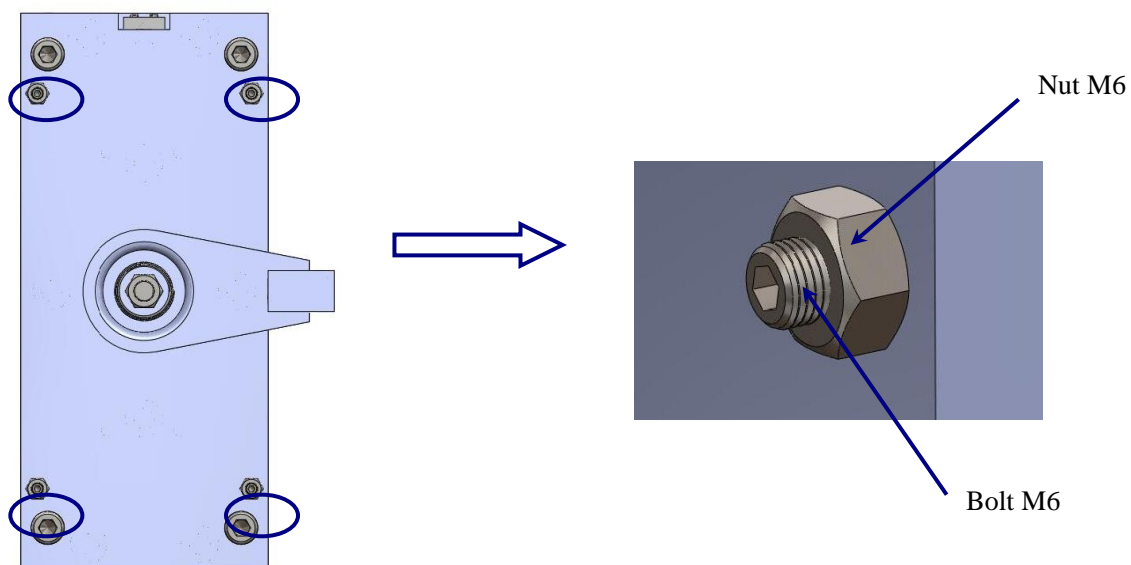

Figure 7: Brake Noise Adjustment
1. Loosen the nut M6 using the open end wrench 10mm. See Figure 7.
3. Use the same method to adjust the other 3 bolts shown in Figure 7.